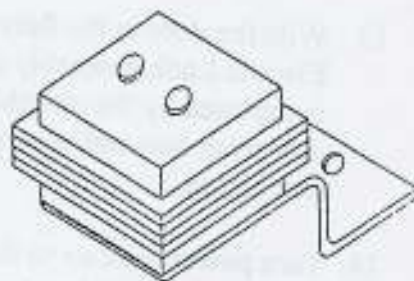

Figure 1
3. Assemble the bracket and transformer with the screw located on the transformer. See Figure 1.
6. Drill an access hole in the nut track flanges large enough to fit the bolt head. Install two (2) 3/8-16 x 1/2 bolts into the bolt head track. Slide the bolts to the approximate center of the door opening. It may be necessary to temporarily remove a rectangular plate holding the track in position to locate the two bolts.